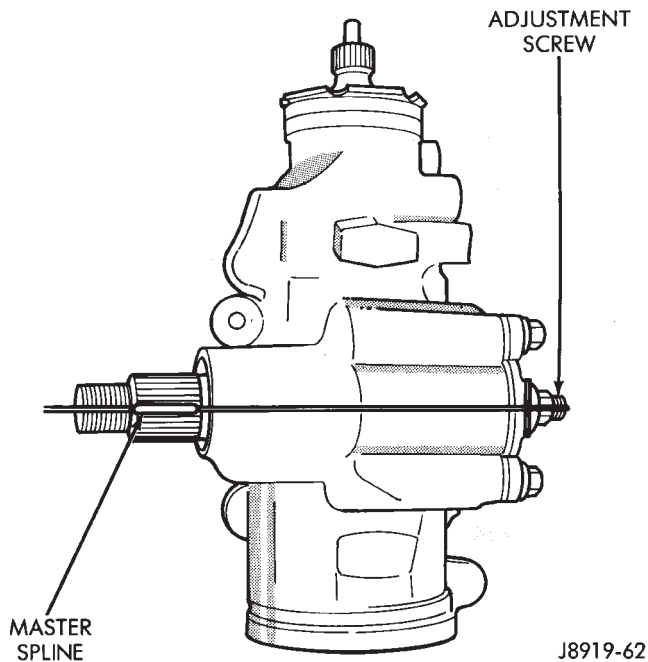

Fig. 12 Steering Gear Centered
(1) Rotate the stub shaft from stop to stop and count the number of turns.
(2) Starting at either stop turn the stub shaft back 1/2 the total number of turns. This is the center of the gear travel (Fig. 12).